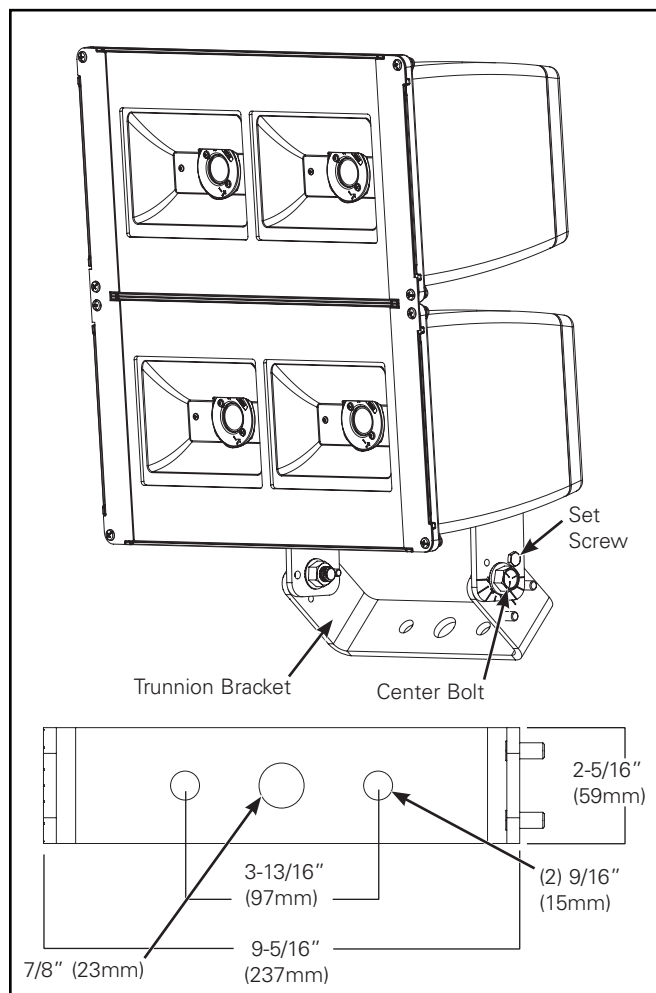

Figure 1.
Trunnion Mounting (Figure 1.)
2. Loosen but do not remove (2) center bolts and (1) set screw. (Figure 1.)